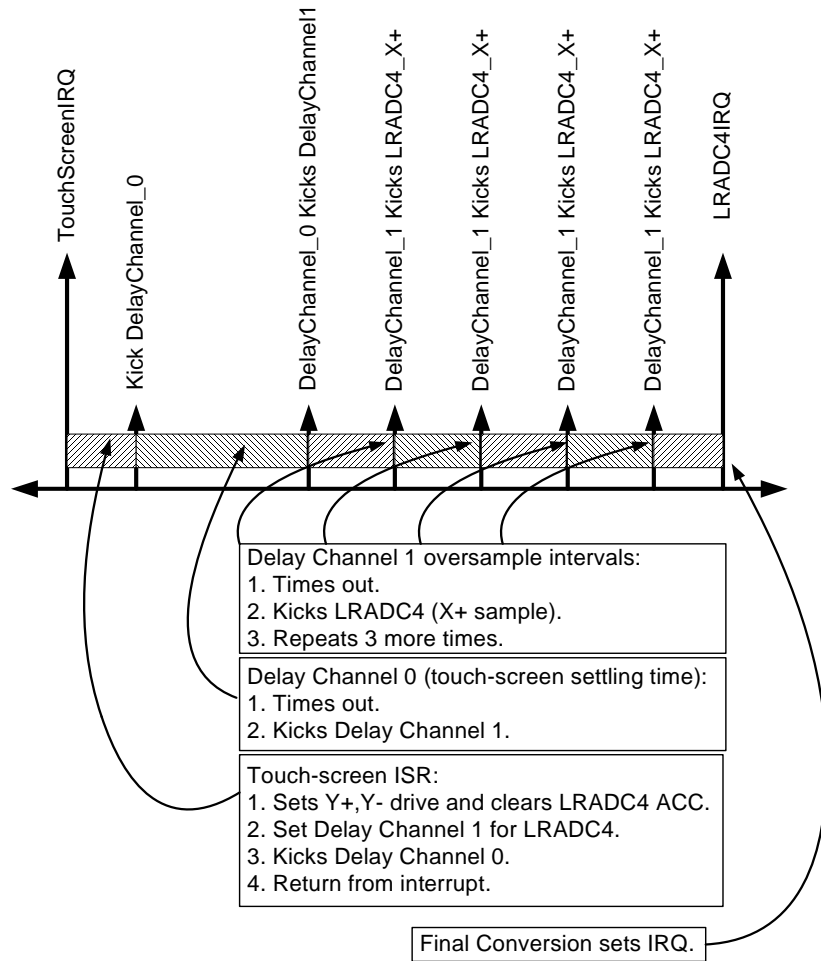

Figure 133. Using Delay Channels to Oversample a Touch-Screen
- Delay Channel 0 is set to delay 1 ms with LOOP\_COUNT = 0, i.e., one time. Its TRIGGER\_DELAYS field is set to trigger Delay Channel 1 when it times out. The ISR routine kicks off Delay Channel 0 immediately before it does its return from interrupt. Another interrupt (LRADC4\_IRQ) is asserted once the entire 4x oversample data capture is complete. A sample timeline for such a sequence is shown in Figure 133.